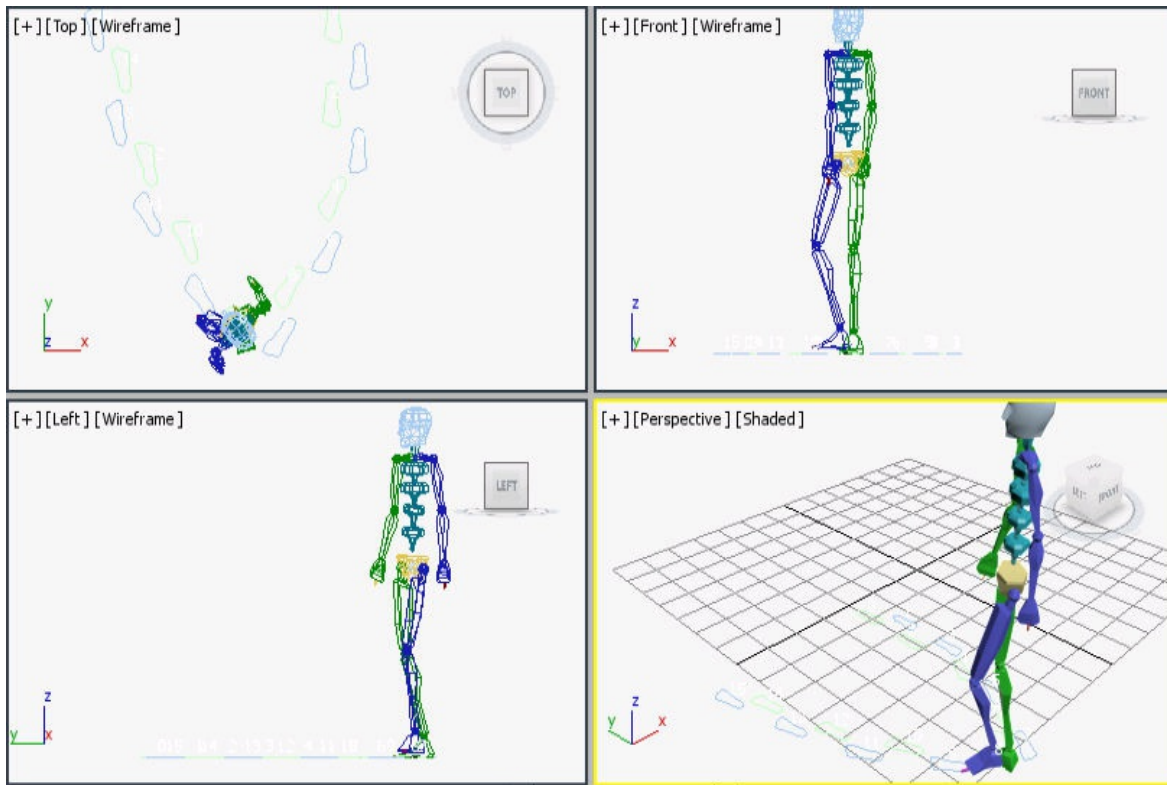

Figure 15-39 The biped model moving according to the newly created footsteps
16. Activate the Perspective viewport and choose the **Play Animation** button; the biped model starts moving according to the newly created footsteps, as shown in Figure 15-39.